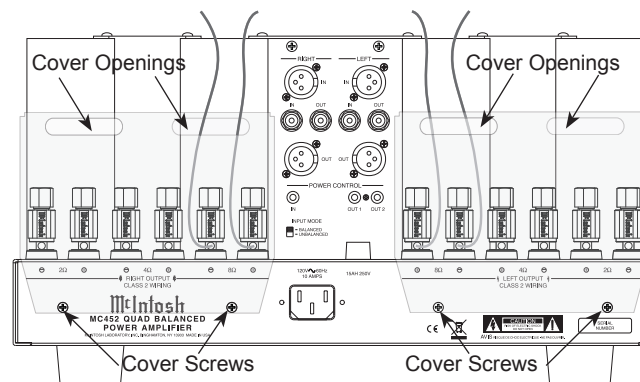

Figure 6 (Outside USA and Canada)
11. Locate the Terminal Connections Covers from the inside of the MC452 shipping carton. Insert the just prepared Loudspeaker hookup cables thru the cover openings, one cover for each channel. Refer to figure 6.
*Note: The illustration in figure 6 is connections for 8Ω (ohms) Loudspeakers.*
13. Attach the Terminal Connections Covers to the MC452 Rear Panel with the previously removed Screws. Refer to figure 6.